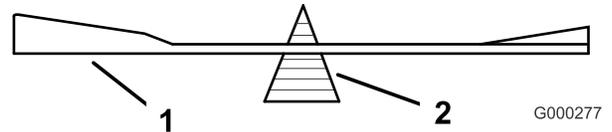

Figure 59
2. Check the balance of the blade by putting it on a blade balancer (Figure 59).
balanced, file some metal off the end of the sail area only (Figure 59). Repeat this procedure until the blade is balanced.